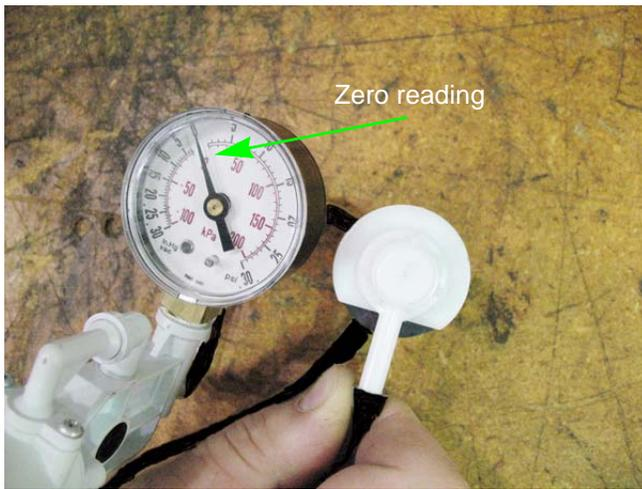

Figure 2.14
5. With the vacuum still applied, turn the roll over valve over. See Figure 2.14.